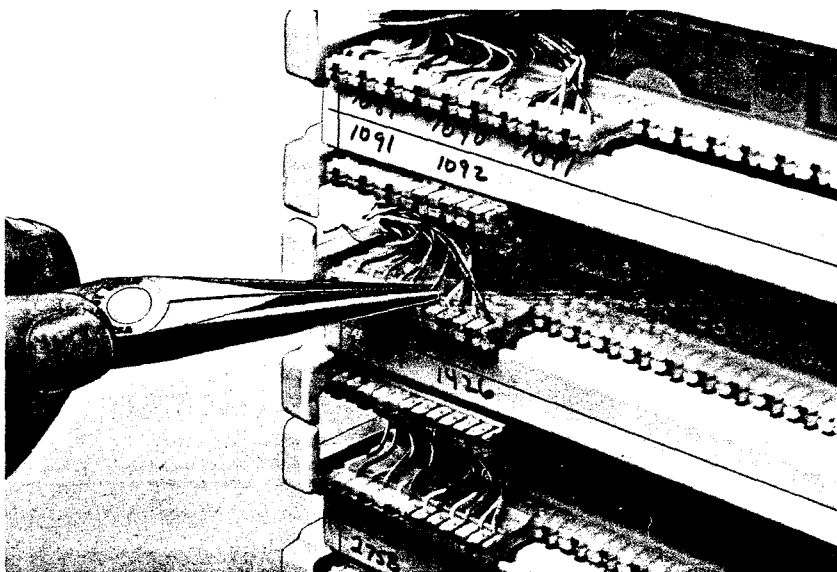

Fig. 20—Removing Cross-Connecting Wire
7.01 Remove the cross-connecting wire with long-nose pliers as shown in Fig. 20.